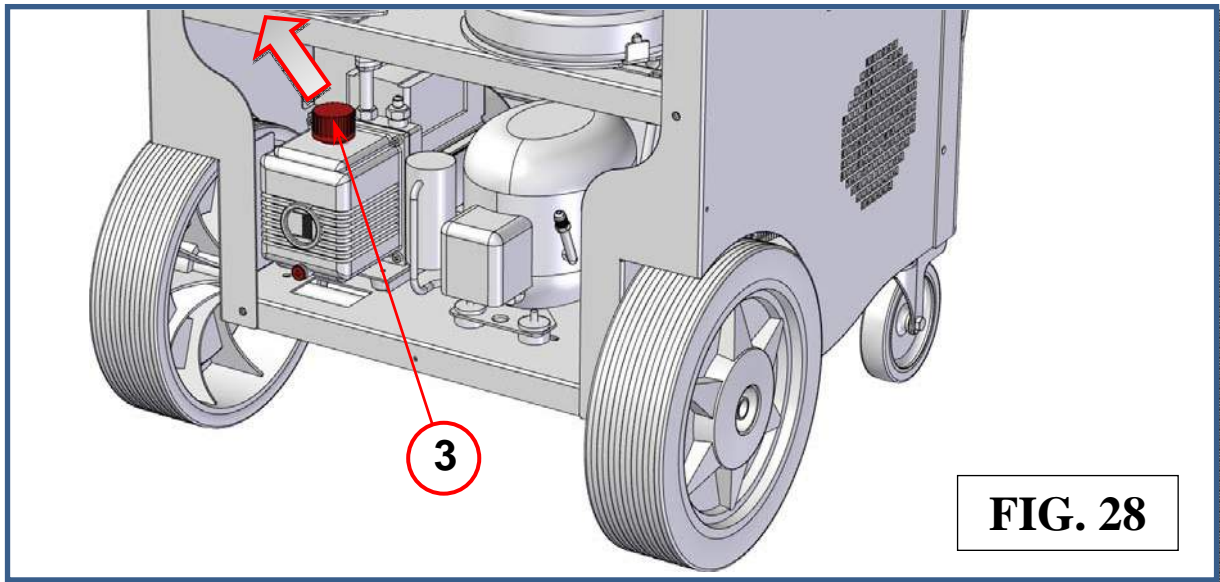

FIG. 28
Locate the filling cap (ref 3, Fig.28) and screw it completely off.
Replace the filling cap (ref 3, Fig.28) and tighten down.